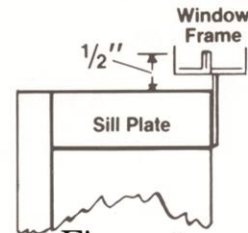

Figure 1.
1. The sill plate should be flush with the top of the gypsum board. Sill plate should be low enough in relation to the window to allow 1/2" window sill above it as shown in Figure 1. If gap below window frame is lower than 1/2", build up the sill plate with scrap gypsum board or wood. After sill plate has been built up to desired height, cut gypsum board flush with sill plate.